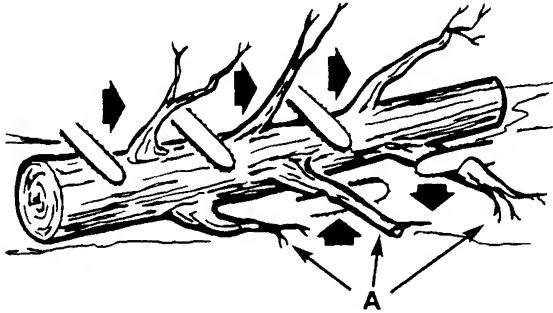

Fig. 12
Limbing a tree is the process of removing the branches from a fallen tree. Do not remove supporting limbs (A) until after the log is bucked (cut) into lengths (Fig. 12). Branches under tension should be cut from the bottom up to avoid binding the chain saw.